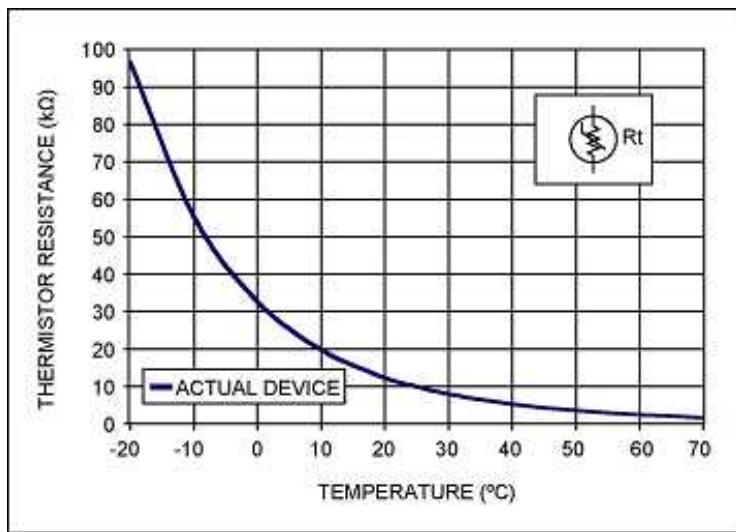

Figure 13-19: Thermistor (Copied from <http://www.maximintegrated.com>)
*Transducers* convert physical data such as temperature, light intensity, flow, and speed to electrical signals. Depending on the transducer, the output produced is in the form of voltage, current, resistance, or capacitance. For example, temperature is converted to electrical signals using a transducer called a *thermistor*. A thermistor responds to temperature change by changing resistance, but its response is not linear, as seen in Table 13-5 and Figure 13-19.